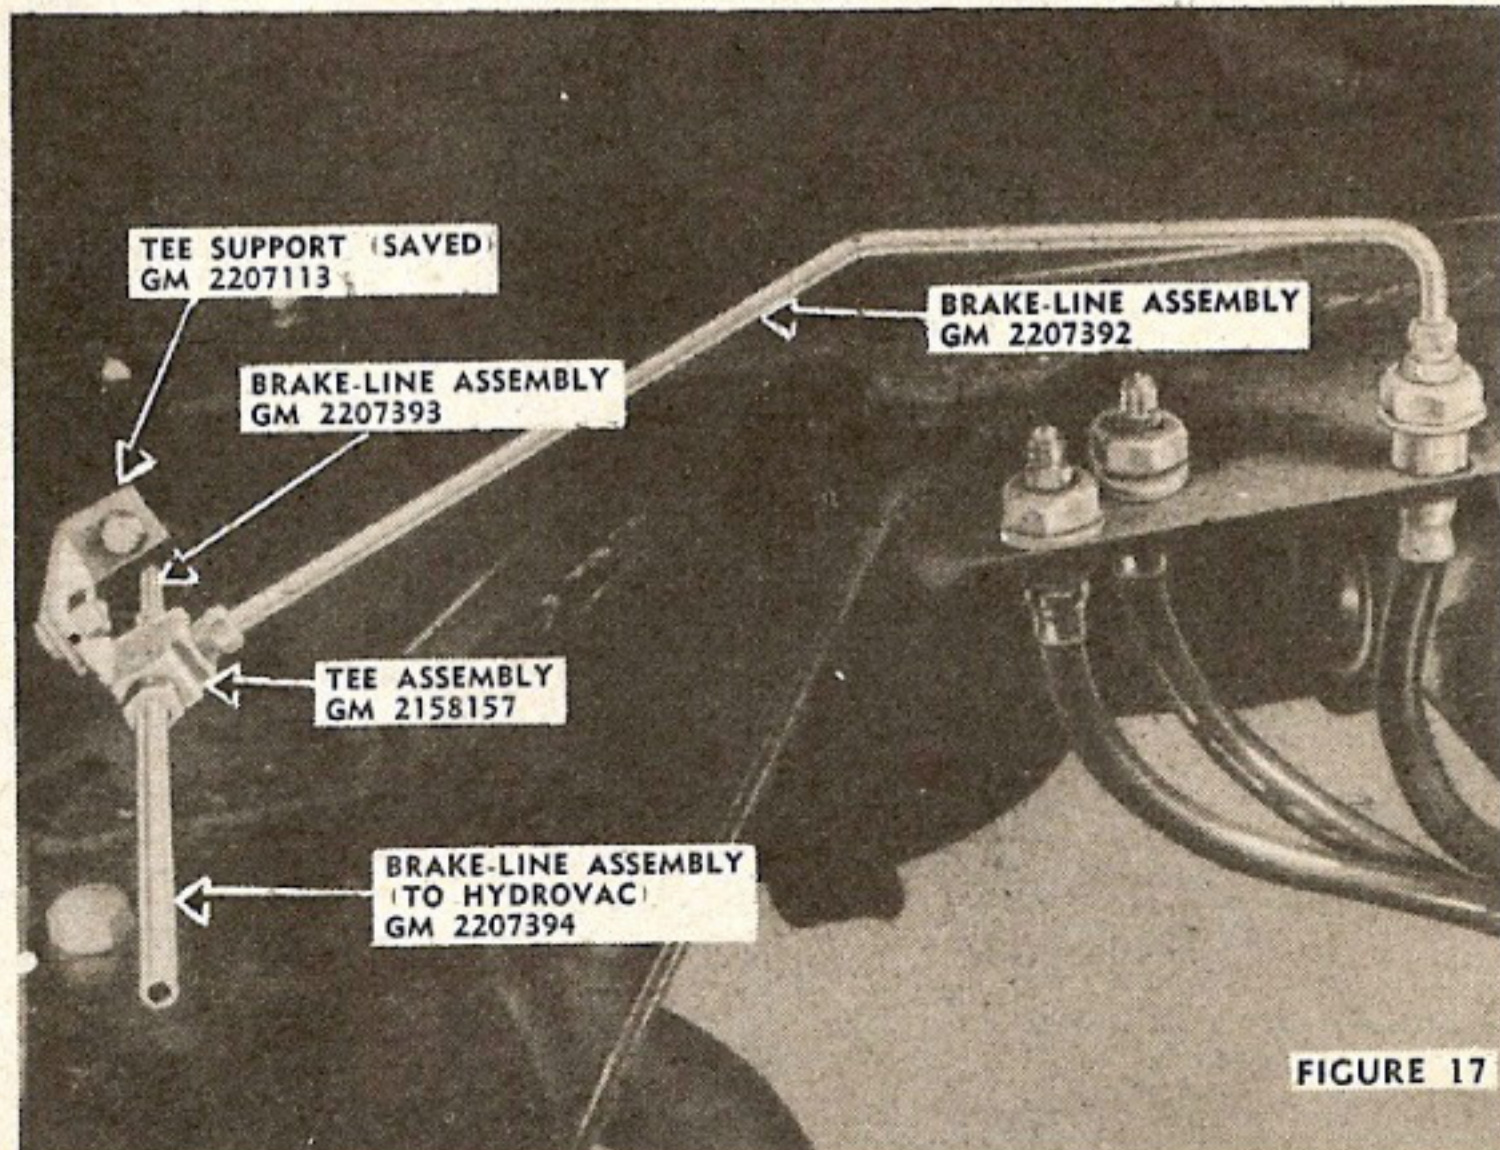

FIGURE 17
support using 1 bolt (H1-5152341), 1 plain washer (H1-7043681), 1 lockwasher (H1-7025681), and 1 nut (H1-4167521), Fig. 17.
(11) Now slide brake-line assembly (GM 2207393, Fig. 4) through the holes in both cross-members and connect the curved end to the rear-rear-axle brake-hose (inside the hull, Fig. 14) and the other end to the tee assembly (Fig. 17).
now, the long, 67 straight inches (GM 2207394, Fig. 6). Connect one end in the tee assembly at the cross-member (Fig. 17). Run the other end towards the front of the duck and connect it in the tee beside the hydrovac. Remove the center bolt from the floor-support angle (in the cross-member behind the hydrovac), slip your last clip (GM 192107, Fig. 12) over the brake-line and fasten the clip